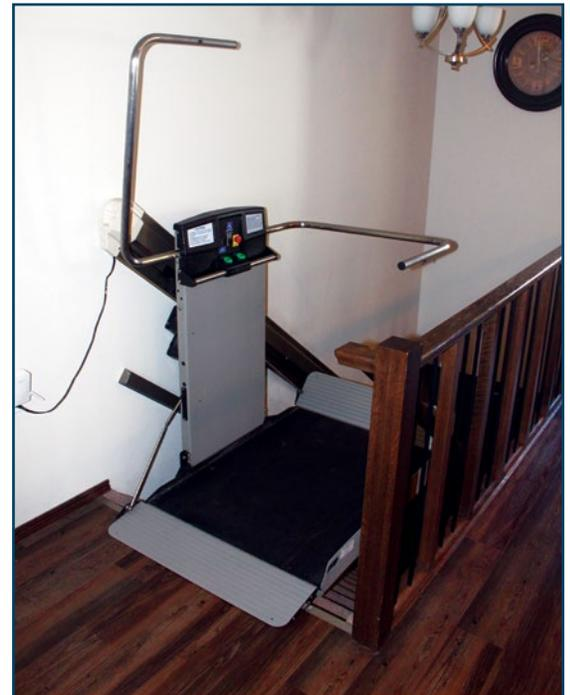

Figure 3: Stair platform lift
**Inclined platform lifts** consist of a platform that moves up and down over an existing stairway (see figure 3). They are often called **stairlifts**.